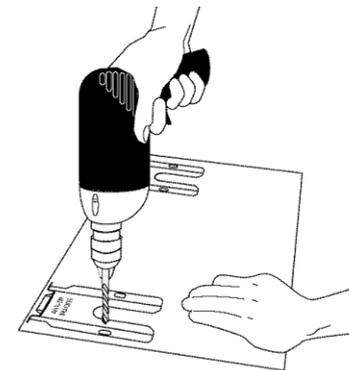

Fig. 23
- 2. Drill Pilot Holes & Fasten Bracket** - Drill 1/8" pilot hole where screws are to be located (Fig. 23). If bracket is to be mounted to the wall, drill pilot hole at an approximate 20° downward angle. If bracket is to be mounted to masonry or ceramic floors, drill 5/32" pilot hole 1-3/4" deep. The screws provided may be used in wood or concrete material. Use 5/16" nut-driver or flat head screwdriver to secure the bracket in place.